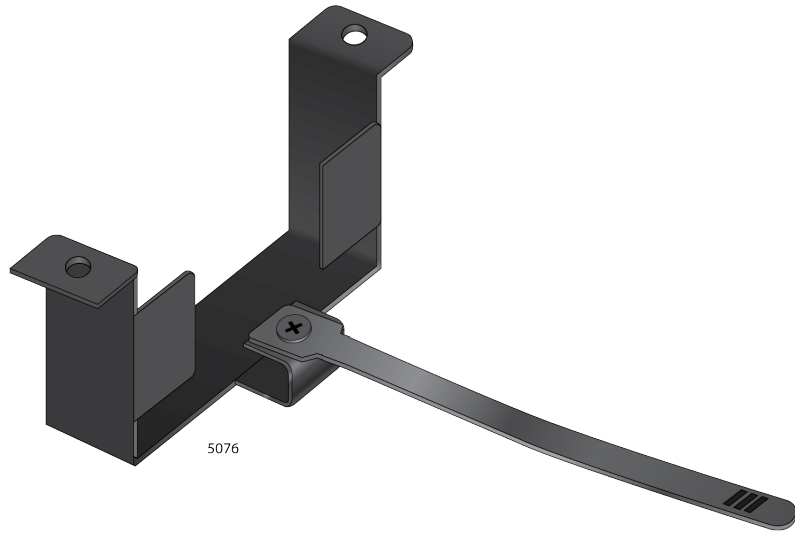

Figure 12. Attaching the Cable Tie to the Bracket
4. Tighten the screw with a Phillips-head screwdriver to attach the cable tie to the power adapter bracket. See Figure 12 on page 27.